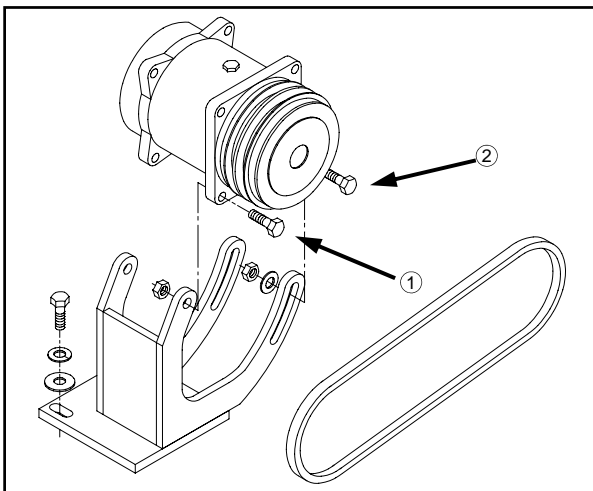

FIG 7.51
To tighten air conditioner compressor belt, loosen the two pivot bolts (fig. 7.51, item 1) and the two slide bolts (fig. 7.51, item 2). Using a suitable prying tool, adjust tension on belt to desired tautness. While maintaining tension, re-tighten all four bolts. Inspect belt every 250 hours.